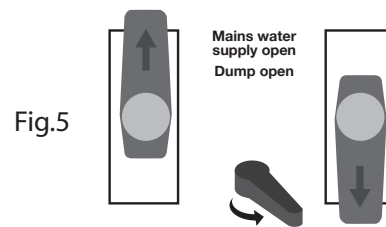

Fig.5
- 5) Set the valves as per Figure 5, open the clean water inlet tap and switch on the pump.
- 3) Set the valves and flow reverser as per Figure 5. Open the clean water inlet tap and switch on the pump.